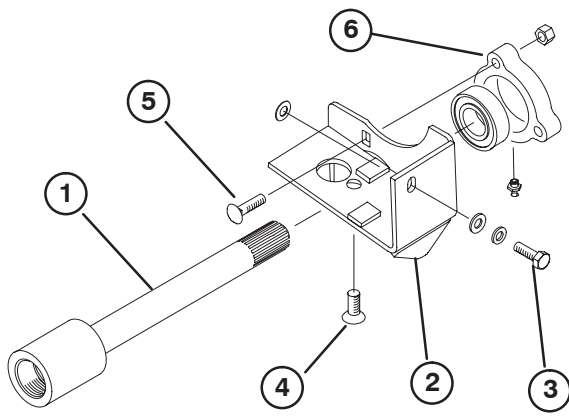

Figure 8
2. Slide traction shaft through bearing bracket, aligning the (2) bearing bracket mounting holes with the holes in side and bottom of hydrostat (Fig. 8).
3. Mount side of bracket to hydrostat with a M8 x 25 mm capscrew, m8 lockwasher, M8 flat washer and 1 or 2 shims (Fig. 8).
Note: Top carriage bolt (Fig. 8) must be installed.
4. Mount bottom of bearing bracket to hydrostat with a 3/8 x 3/4" lg. socket head screw (Fig. 8).
5. Thread traction shaft (Fig. 8) (left hand thread) onto coupler output shaft and tighten. Using an open end torque wrench, on the square shaft of the drive shaft assembly, torque the traction shaft (counter-clock wise) to 110–120 ft/lb.